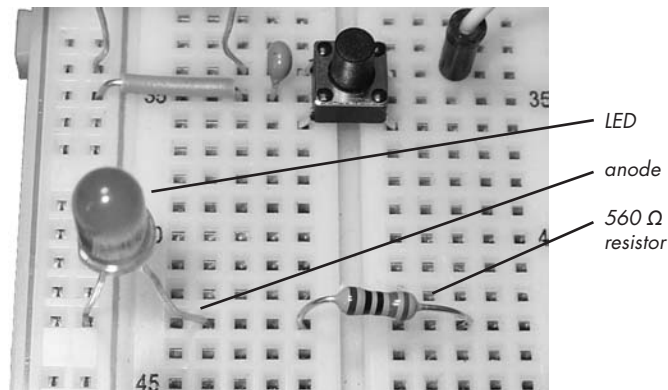

Figure 4-24: Inserting the LED and $560\ \Omega$ resistor
5. Insert the LED into the breadboard with the short leg (the cathode) connected to the GND column, and the long leg (the anode) in a row to the right. Next, connect the $560\ \Omega$ resistor to the right of the LED, as shown in Figure 4-24.